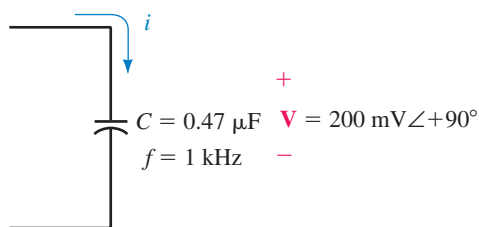

FIGURE 18-83
- For the component shown in Figure 18-83: